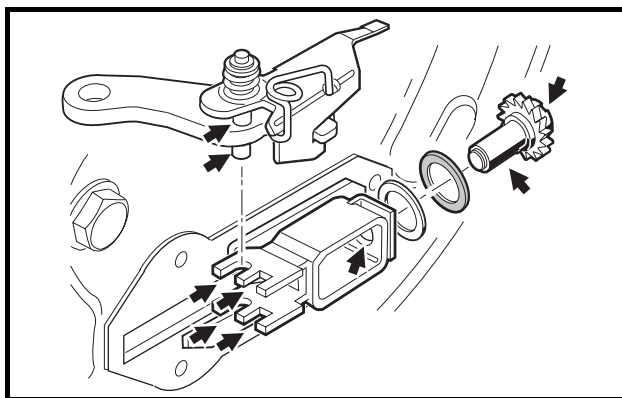

Figure 6-10 Lubricate Adjuster
6. Use a small brush to carefully apply a light coat of white lithium NLGI #2 grease (Dow Corning BR2-Plus or equivalent) to the brake adjuster assembly, adjuster wheel shoe slots, and the shaft of the adjuster wheel as shown (Figure 6-10, Page 6-4). See WARNING "Some aftermarket brake shoes..." on page 6-4.
7. Install the adjuster wheel and two washers into the adjuster assembly (Figure 6-10, Page 6-4).